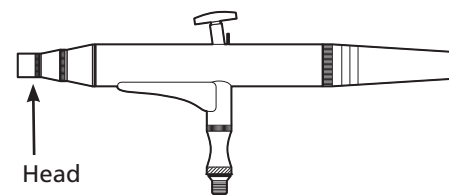

Figure 18
5. Remove head by turning in a counter clockwise direction with adjustable wrench. See Figure 18.